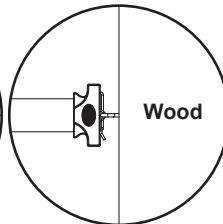

Figure 3
3. The eye screw can be fixed onto wood board or timber, and the fixing pin can be connected with it (**see Figure 3**).